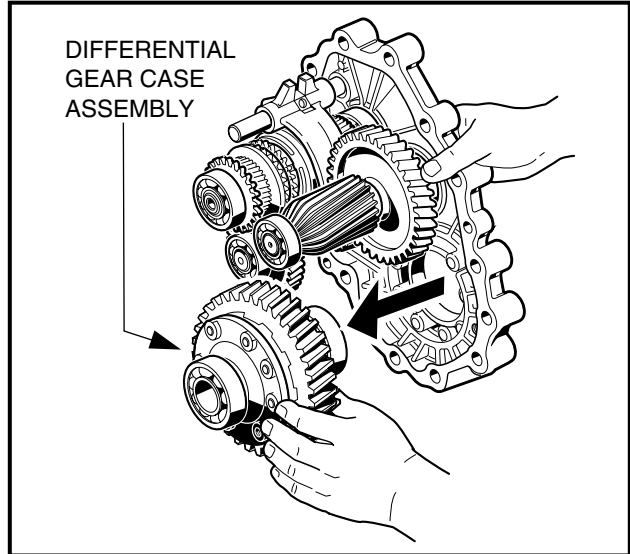

Figure 7-7 Remove Differential Gear Case
- When all the gear assemblies are slightly loosened, remove the differential gear case assembly by gently rocking it while pulling it from the case (**Figure 7-7, Page 7-5**).